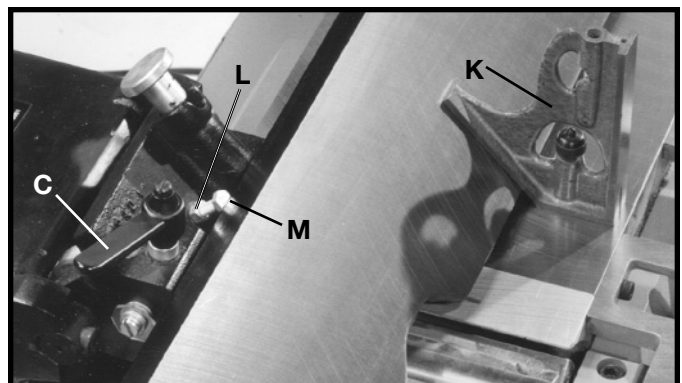

Fig. 37
5. Tilt the fence outward as far as possible and using a combination square (K) Fig. 37, check to see if the fence is tilted outward 45 degrees, as shown. If an adjustment is necessary, loosen locknut (L) and turn adjusting screw (M) until the fence is at 45 degrees to the table. Then tighten locknut (L) and lock handle (C).